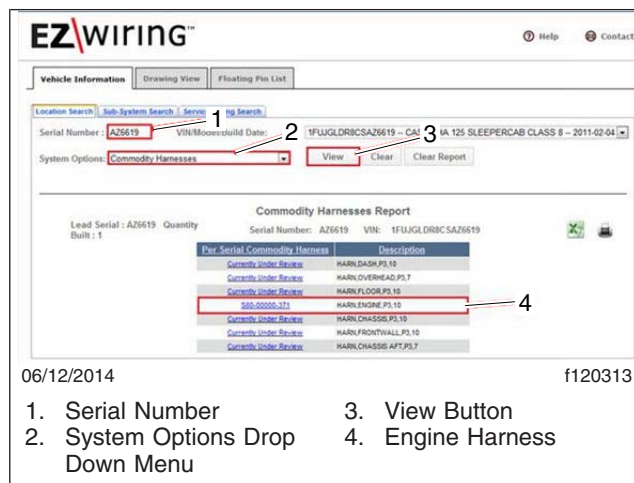

Fig. 3, EZWiring Vehicle Information Screen
3. Select "Commodity Harnesses" under the **System Options** dropdown menu, then press "View." See **Fig. 3**.